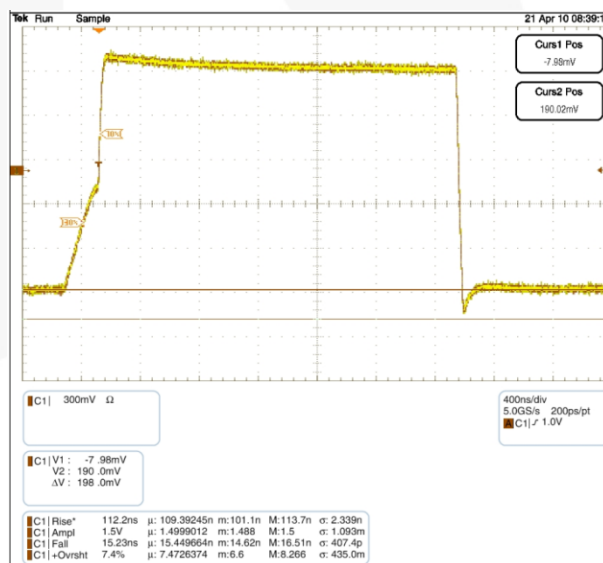

Figure 4. Waveform C: 600pF, Total  $R_{PU}$ : 2.2K $\Omega$
between the ports until either of the port's  $V_{CC}/2$  thresholds are reached. After the RC time constant has reached the  $V_{CC}/2$  threshold of either port, the port's edge detector triggers both dynamic drivers to drive their respective ports in the LOW-to-HIGH (LH) direction, accelerating the rising edge. The resulting rise time resembles the scope shot in Figure 4. Effectively, two distinct slew rates appear in rise time. The first slew rate (slower) is the RC time constant of the bus. The second slew rate (much faster) is the dynamic driver accelerating the edge.
The FXMA2104 dynamic drivers have enough current-sourcing capability to drive a 400pF capacitive bus. This is beneficial when an I2C buffer / repeater is required. The I2C specification stipulates a maximum bus capacitance of 400pF. If an I2C segment exceeds 400pF, an I2C buffer / repeater is required to split the segment into two segments, each of which is less than 400pF. Figure 4 is a scope shot of an FXMA2104 driving a lumped load of 600pF. Notice the (30% - 70%) rise time is only 112ns (total  $R_{PU} = 2.2K \cdot$ ). This is well below the maximum edge rate of 300ns. Not only does the FXMA2104 drive 400pF; it also provides excellent headroom below the I2C specification maximum edge rate of 300ns.